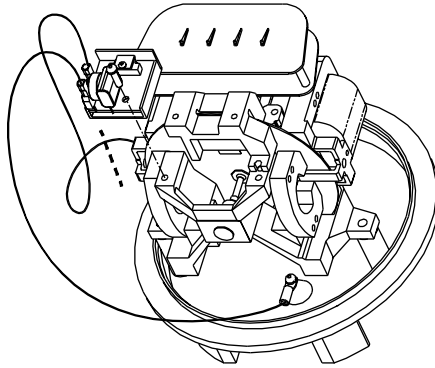

Figure 13. Attaching WOPI to Meter
7. Using the 6-40 x 1/2 inch screw, attach the WOPI to the meter base so that the mounting bracket and WOPI are aligned parallel to the meter disk. Ensure that wires do not interfere with the meter disk. See Figure 13.